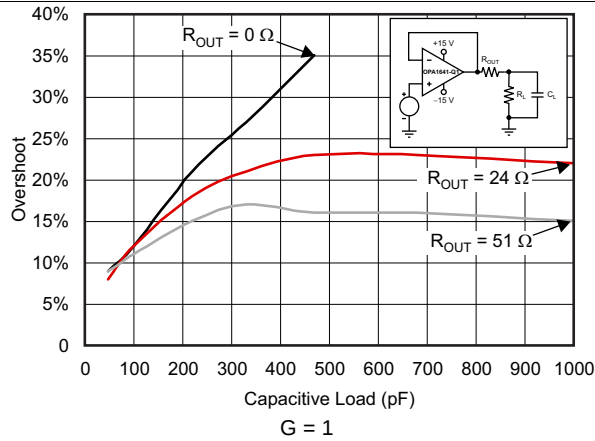
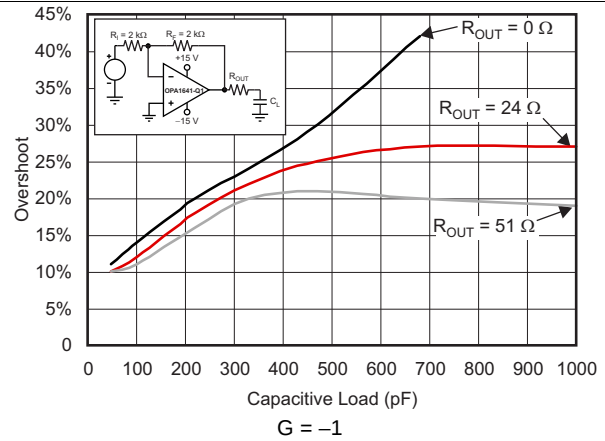

图 19. Small-Signal Overshoot vs Capacitive Load (100-mV Output Step)
图 20. Small-Signal Overshoot vs Capacitive Load (100-mV Output Step)
(1) Full power bandwidth = $SR / (2\pi \times V_P)$, where SR = slew rate.
(2) See Figure 19 and Figure 20.
图 19 and 图 20 illustrate graphs of *Small-Signal Overshoot vs Capacitive Load* for several values of R_{OUT} . For details of analysis techniques and application circuits, see Feedback Plots Define Op Amp AC Performance available for download at www.ti.com